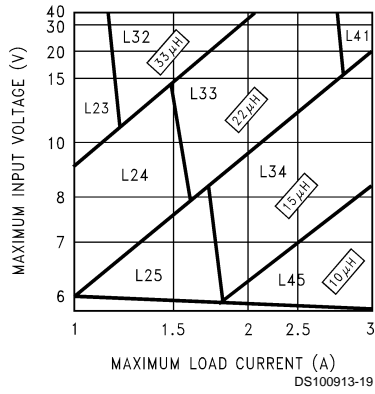
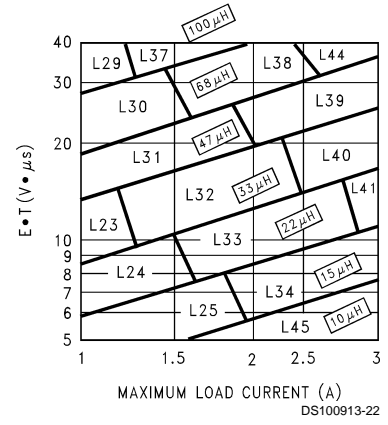

FIGURE 3. LM2673-3.3
FIGURE 6. LM2673-ADJ
Step 3: Determine the inductor required by using one of the four nomographs, *Figure 3* through *Figure 6*. Table 1 provides a specific manufacturer and part number for the inductor.
Step 5: Determine an input capacitor from Table 4 for fixed output voltage applications. Use Table 2 to find the specific capacitor type. For adjustable output circuits select a capacitor from Table 2 with a sufficient working voltage (WV) rating greater than $V_{in\ max}$, and an rms current rating greater than one-half the maximum load current (2 or more capacitors in parallel may be required).
Step 3: Use the nomograph for the 3.3V device, *Figure 3*. The intersection of the 16V horizontal line ($V_{in\ max}$) and the 2.5A vertical line ($I_{load\ max}$) indicates that L33, a 22 μ H inductor, is required.
Step 3: To use the nomograph for the adjustable device, Figure 6, requires a calculation of the inductor Volt•microsecond constant ($E \cdot T$ expressed in $V \cdot \mu\text{S}$) from the following formula:
Using Figure 6, the intersection of 27V• μS horizontally and the 2A vertical line (I_{load} max) indicates that L38, a 68 μH inductor, should be used.
Important Note: When using the adjustable device in low voltage applications (less than 3V output), if the nomograph, Figure 6, selects an inductance of 22 μH or less, Table 6 does not provide an output capacitor solution. With these conditions the number of output capacitors required for stable operation becomes impractical. It is recommended to use either a 33 μH or 47 μH inductor and the output capacitors from Table 6.